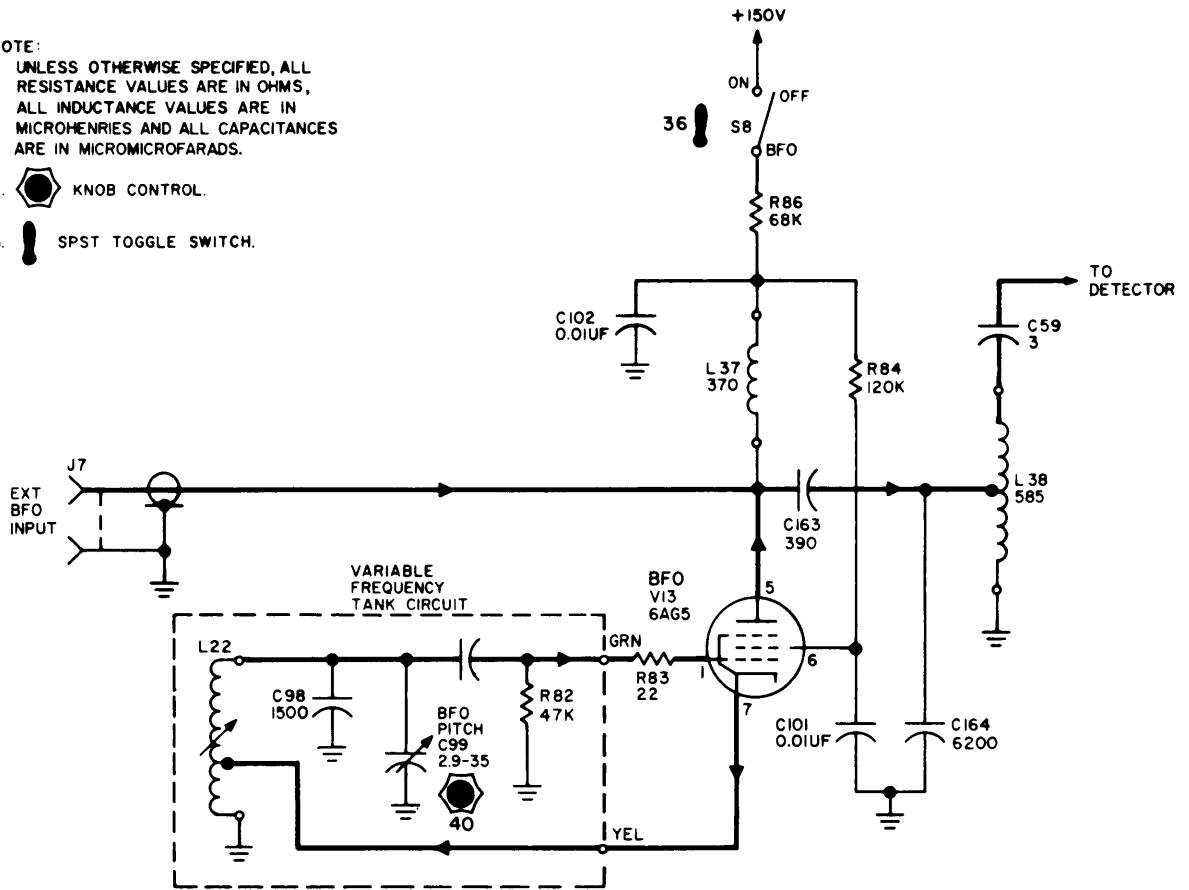

Figure 4-7. Schematic Diagram, GPR-90RXD, BFO
**g. BEAT FREQUENCY OSCILLATOR.** (See figure 4-7.) - The BFO, which is centered at 455 kc, is injected at the detector plate. The BFO stage, V13, is made operable by applying 150 volts to the plate end screen circuits with BFO switch S8 in the ON position. The output frequency may be varied  $\pm 3$  kc by adjusting BFO PITCH control C99.